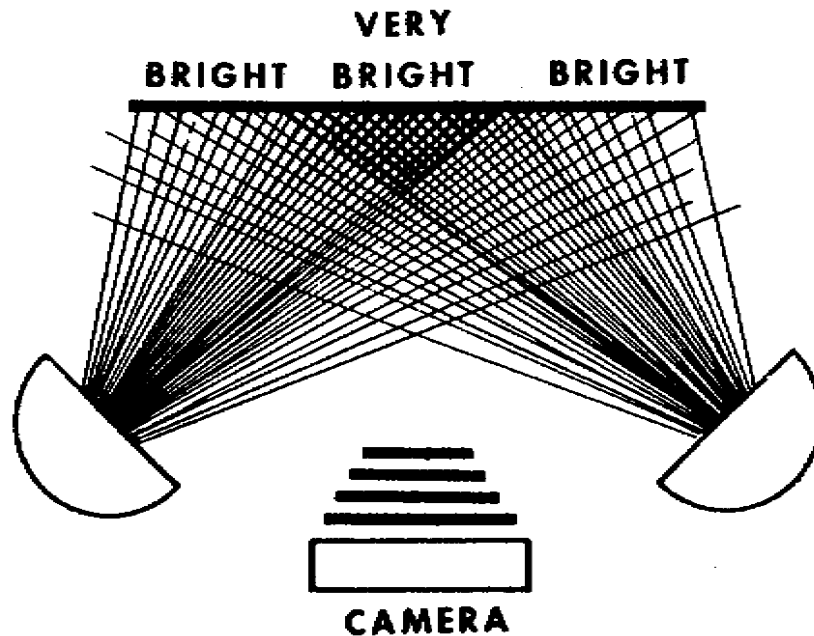

Figure 3-8. Uneven lighting
g. To achieve uniform lighting, it is better to set the lights away from the original. The center of the beam of light is generally brighter than the outside, so if lights are brought in too close, the center of the original (fig 3-8) may be brighter than the edge or corners. Distance does reduce the overall brightness but it makes the illumination more uniform (fig 2-9). You can also increase uniformity by placing white tissue paper over the light, thereby diffusing the light.